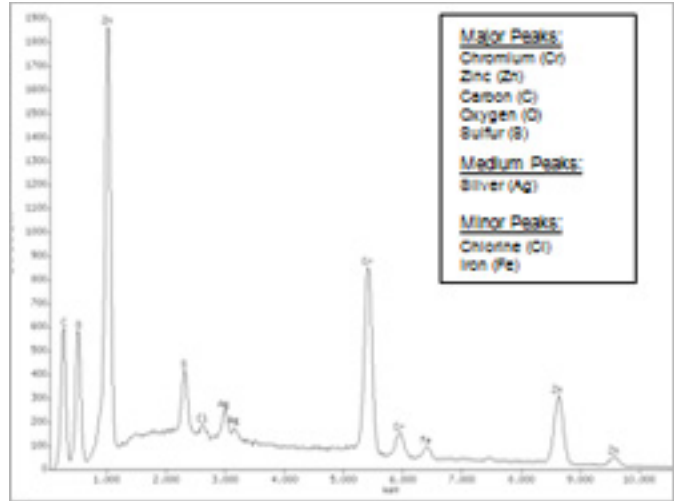

Figure 5: EDS spectrum of Spot #1.
2. EDS spectra generated by the spots, along with a reference spectrum from the non-spotted area, are shown in Figures 5 – 7 below and on the following page. Major, minor and trace peaks on the spectra are identified on each corresponding Figure.